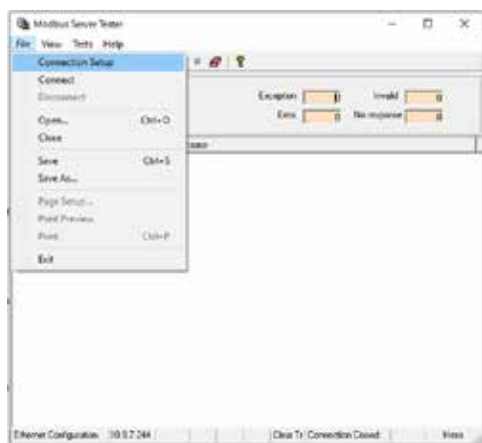

Figure 38.1. Open the Modbus/TCP Diagnostic Tool, then choose File, Connection Setup to access the Configuration screen.
- The diagnostic tool will display the Configuration screen. If not, choose Connection Setup from the File menu. See Figure 38.1.
- In the Send New Frame window (see Figure 38.1), keep the default settings of "1" Times with "100" ms of Delay. Click on the "01 Read discrete Outputs". A new Request Data window will appear where you can input a function code, starting address, and quantity of outputs. See Figure 40.2.